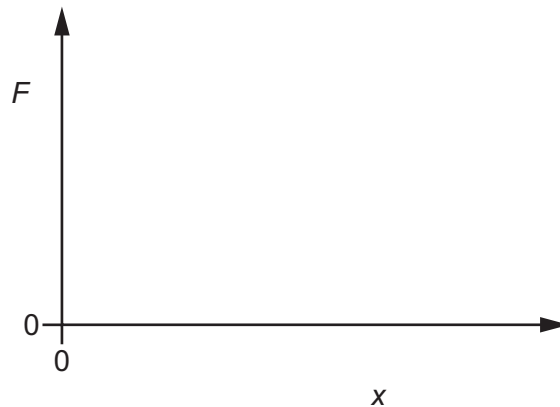

Fig. 4.1
- (i) On Fig. 4.1, sketch the variation of tensile force F in the wire with its extension x .
- (ii) State the name of the quantity represented by the gradient of the line in Fig. 4.1.
- (iii) State the name of the quantity represented by the area under the line in Fig. 4.1.